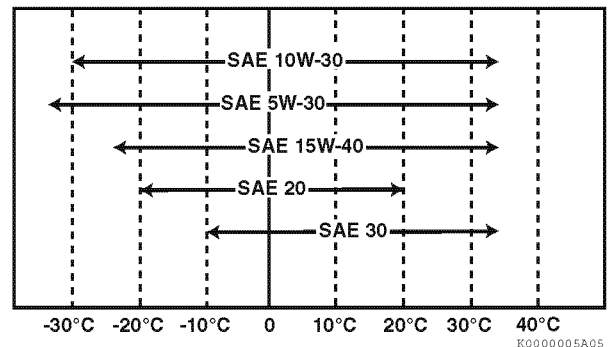

Figure 4-5
- Select the oil viscosity based on the ambient temperature where the engine is being operated. See the SAE service grade viscosity chart (Figure 4-5).
Select the appropriate engine oil viscosity based on the ambient temperature and use the SAE service grade viscosity chart in Figure 4-5.